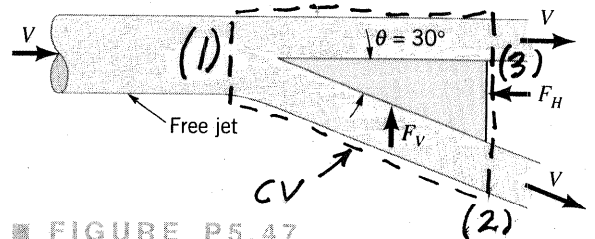

FIGURE P5.47
5.47 A free jet of fluid strikes a wedge as shown in Fig. P5.47. Of the total flow, a portion is deflected 30° ; the remainder is not deflected. The horizontal and vertical components of force needed to hold the wedge stationary are F_H and F_V , respectively. Gravity is negligible, and the fluid speed remains constant. Determine the force ratio, F_H/F_V .